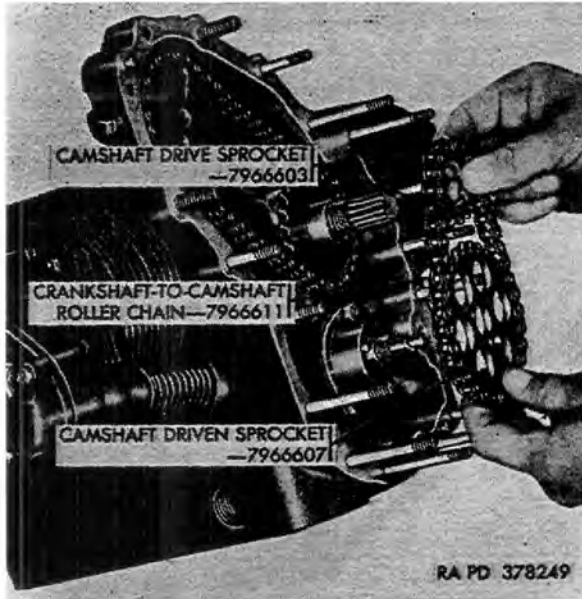

Figure 22. Removal of crankshaft-to-camshaft chain and sprockets.
b. Remove Camshaft Driven Sprocket, Camshaft Drive Sprocket, and Chain. Bend back the section of key washer (H) which locks crankshaft nut (J). Remove crankshaft nut and key washer securing crankshaft sprocket to crankshaft. Bend back the section of key washer (L) which locks camshaft nut (K). Remove camshaft nut and key washer. Pull crankshaft to camshaft chain and sprockets from crankshaft and camshaft simultaneously (fig. 22).